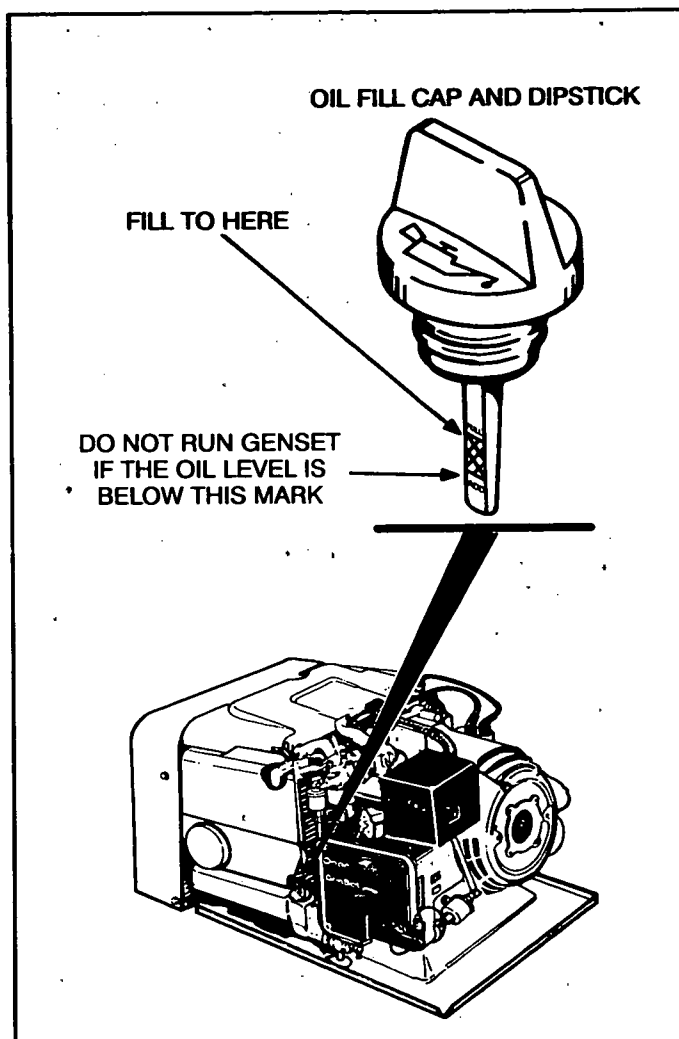

FIGURE 8. OIL LEVEL CHECK
1. Remove the oil fill cap/dipstick (Figure 8) and wipe it clean.
2. Remove the oil fill cap (Figure 8).